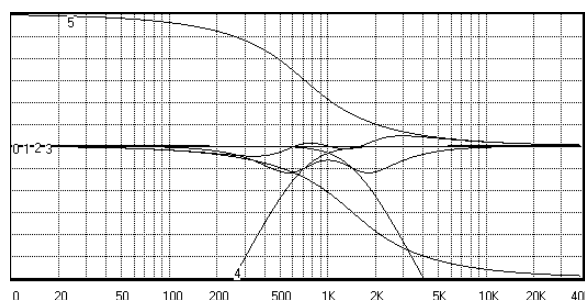

FIGURE 3: Summed second-order overlapped Butterworth crossover at 1kHz following Lipshitz and Vanderkooy;² overlap parameter = 2; scale: 3dB/division.
Based on the relationships of equations (5) and (6), Fig. 3 shows the summed amplitude and phase response for a 1kHz crossover derived